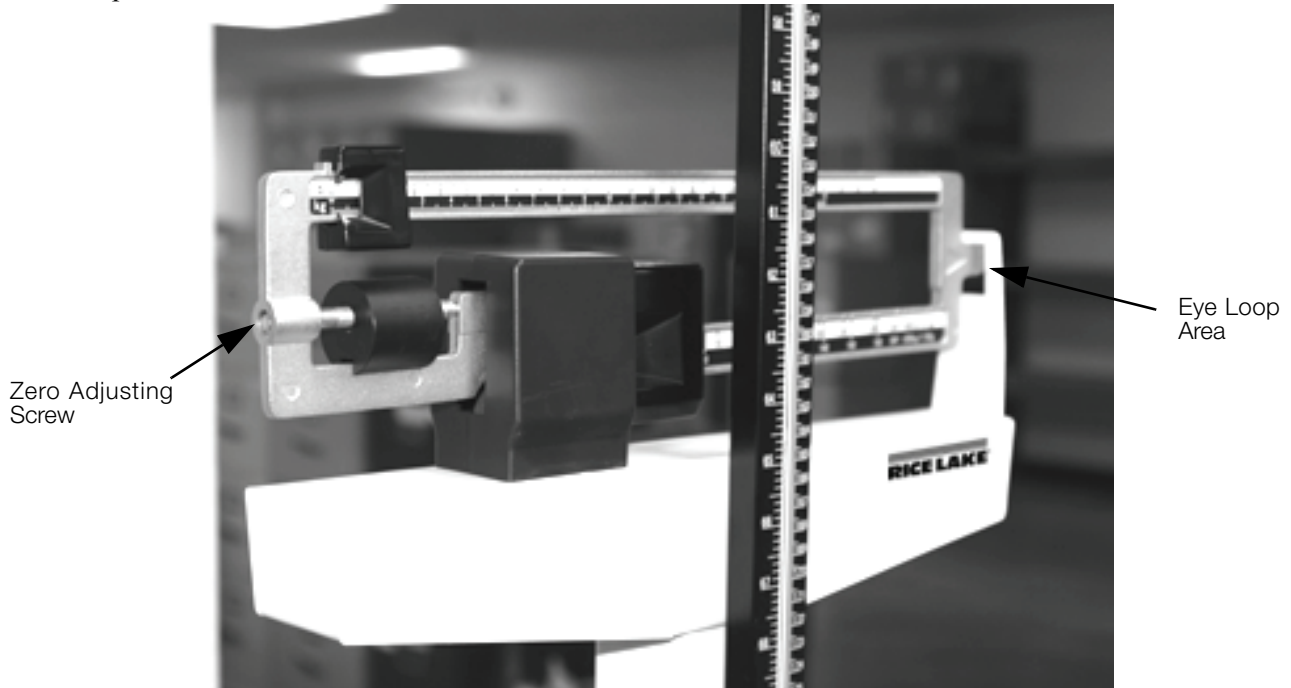

Figure 10. Eye Loop Area and Zero Adjusting Screw Location
3. If the scale is not balancing properly, then the small zero balance weight must be adjusted. Turn the zero adjusting screw (shown in Figure 10) using a flat head screwdriver. By adjusting the screw, the zero balance weight will move accordingly.